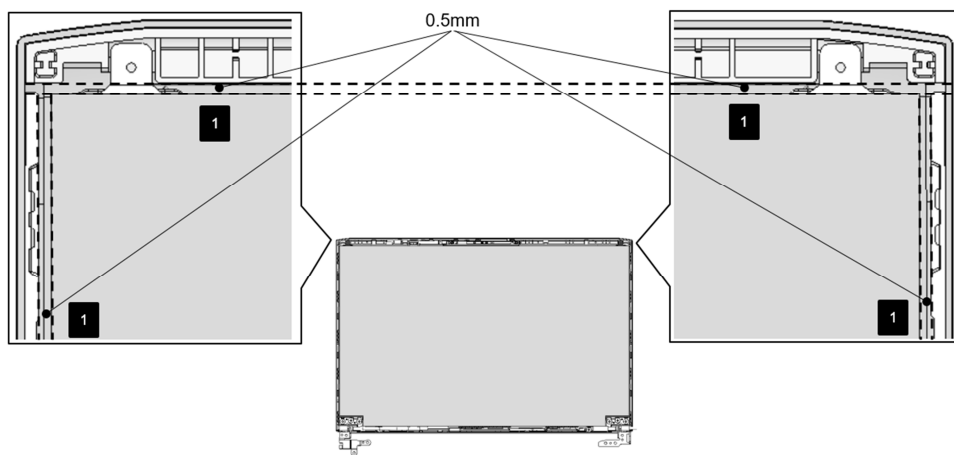

Figure 4-25 Panel assembly explanation (For P30)
5. For Panel P30 type : Rotate the panel right-side up and use 0.5mm Mylar between LCD cover and Panel to seat it in the correct position as shown in Figure 4-25.  ,1
9. For Panel P30 type : Rotate the panel right-side up and use 0.5mm Mylar between LCD cover and Panel to seat it in the correct position as shown in Figure 4-25.